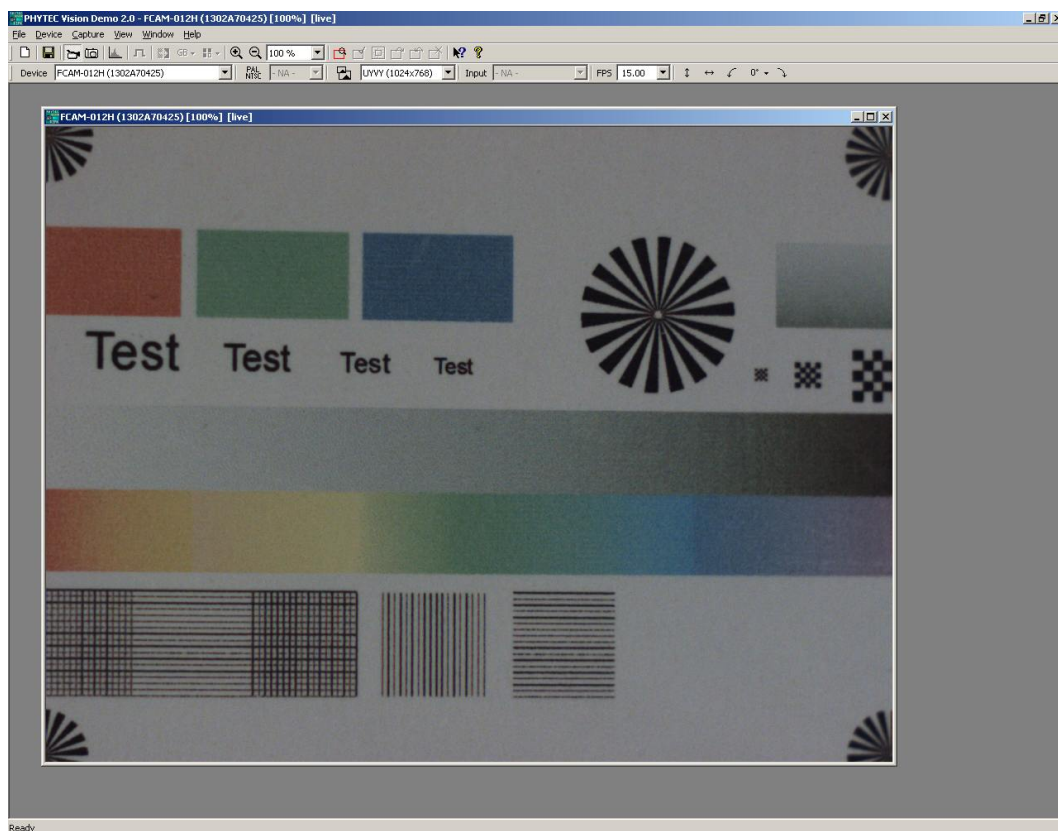

Figure 22: PHYTEC Vision Demo – Live View Function Activated
- A live image will appear in the program window (Figure 22).